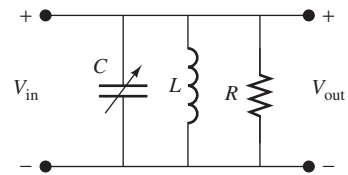

FIGURE P7.40 Circuit for Problem 7.40.
The circuit of an AM radio tuner is shown in Figure P7.40. The frequency range for AM broadcasting is 540 to 1600 kHz. Given that $L = 1$ μ H, what must be the range of C to have the resonant frequency adjustable from one end of the AM band to another?
7.41 (H) AM channels are spaced in 10 kHz increments, that is, 540, 550, 1590, and 1600 kHz. The bandwidth of the AM radio tuner must not exceed 10 kHz, in order to suppress the interference of neighboring channels. The circuit of the tuner is shown in Figure P7.40. Find the conditions under which the interference from neighboring AM channels is filtered out.